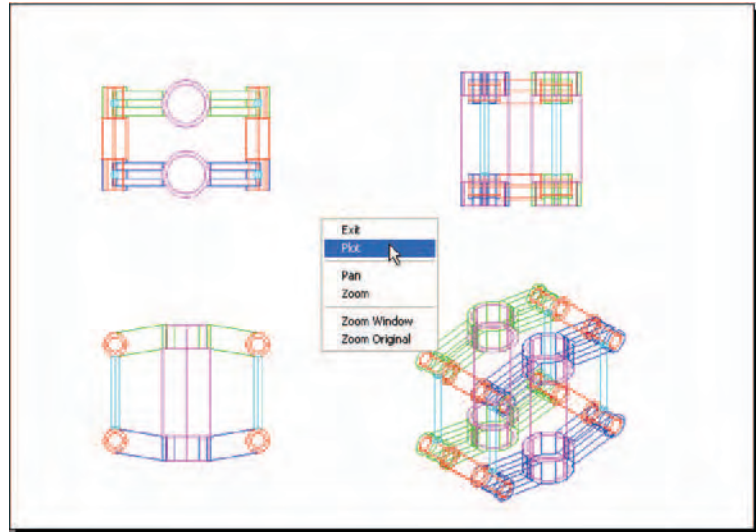

Fig. 19.8 First example – printing/plotting
First example – Printing/plotting (Fig. 19.8)
10. Click the **Preview** button. The full preview of the plot appears (Fig. 19.8).
1. Open the 3D model drawing of the assembly shown in Fig. 19.8 in a single **ViewCube/Isometric** view.